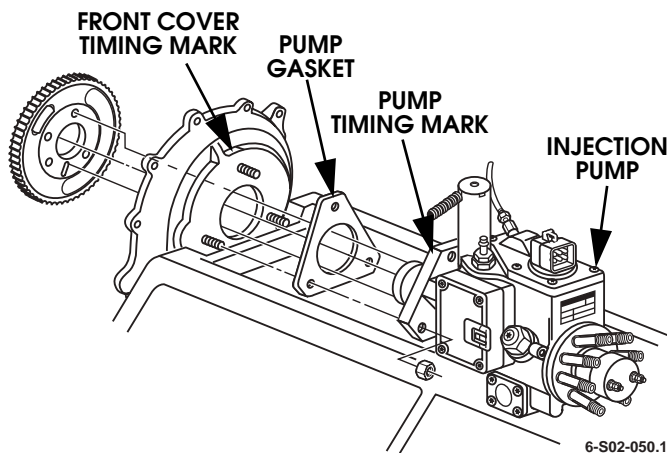

Figure 2-169: Injection Pump Installation
2. Mount injection pump on front cover studs (Figure 2-169). Install retaining nuts finger tighten.